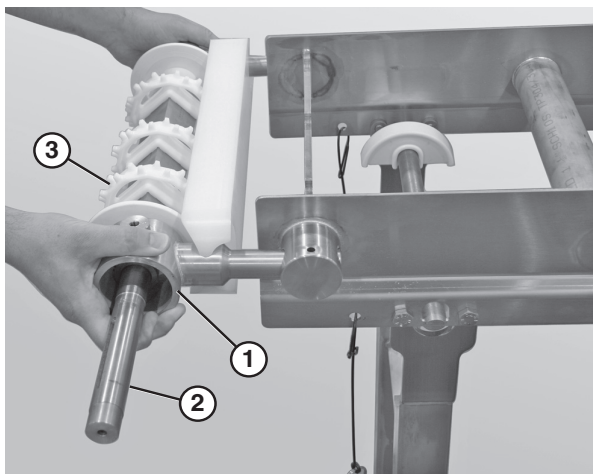

Figure 72
6. Slide the drive tail assembly out of the take up blocks (**Figure 72**).
7. Slide the motor support bracket (**Figure 72, item 1**) off the drive spindle (**Figure 72, item 2**).
8. Remove the sprockets (**Figure 72, item 3**).